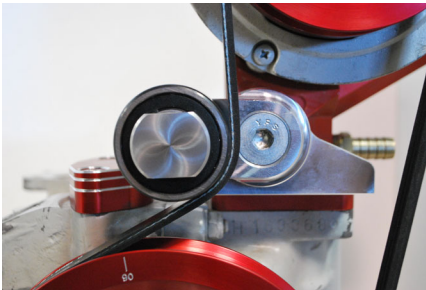

Figure 1.0 (Idler Bearing Position)
Step 4: Facing the engine, place the Sub-Assembly described in Step 2 over the two studs and on top of the stand. There are (4) flat washers in your kit. There are (4) 8mm flat washers included in your kits. These are here in the event there is a leveling issue. If you find that your aftermarket, cast stand is tapered and causing the bracket assembly to sag or lean forward, place a washer over the stud (between the stand and bracket base) This should solve the problem. Loosen the flush head screw holding the aluminum components together and rotate the arm to the left. If this is not done prior to placing on the stand, the arm may not swivel past the alternator. Use the 12mm flat washers and acorn nuts to install the aluminum bracket assembly (*See Figure 1.0*). Do not fully tighten yet, there may be further alignment needed later.